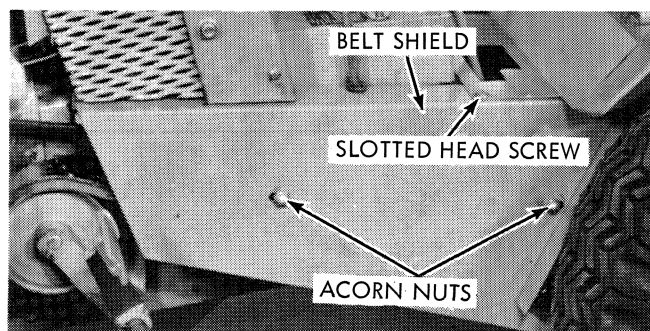

Figure 2.
2. Remove belt shield from left side of tractor by removing two acorn nuts from the side and a slotted head screw from top of shield. (See Fig. 2 for location of hardware.)